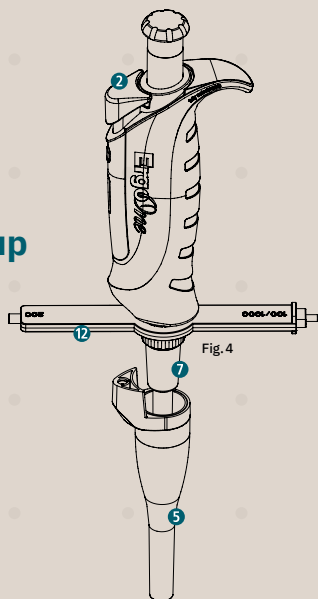

Fig. 4
- Fully depress the tip ejector button **2** and pull the tip ejector **5** down (Fig. 4).